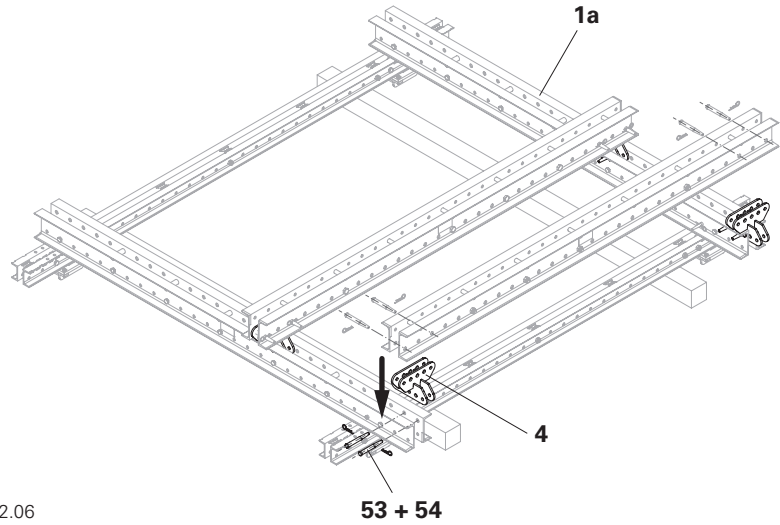

Fig. B2.06
1. Fasten the Cross Connector RCS (**4**) to the assembly position of Climbing Rail RCS (**1a**) with fitting pin  $\varnothing$  26 x 120 (**53**) and secure with cotter pin (**54**). (Fig. B2.06)